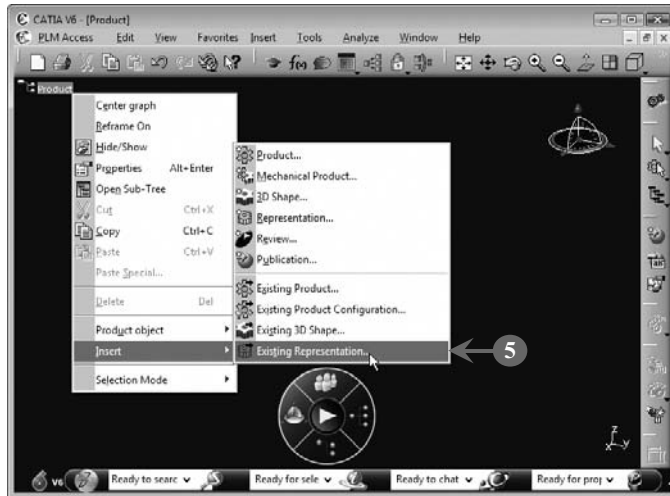

FIGURE 4.15
5. *Right-click* the **Product** assembly in the specification tree and *select* **Insert>Existing Representation** from the context menu, as shown in **Figure 4.15**: